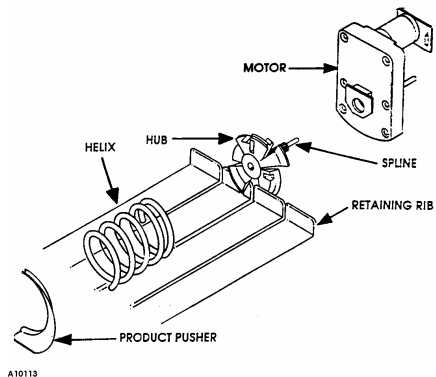

Figure 7. Motor & Auger
1. Remove the motor cover. See Figure 7